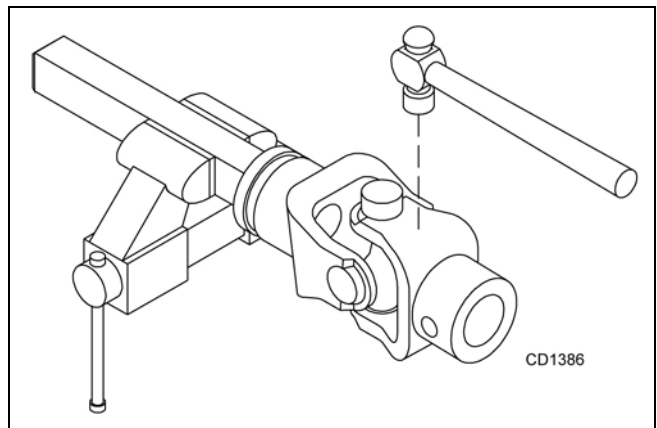

Figure 24. Remove Cups
2. With snap rings removed, support drive in vise, hold yoke in hand and tap on yoke to drive cup up out of yoke. See Figure 24.